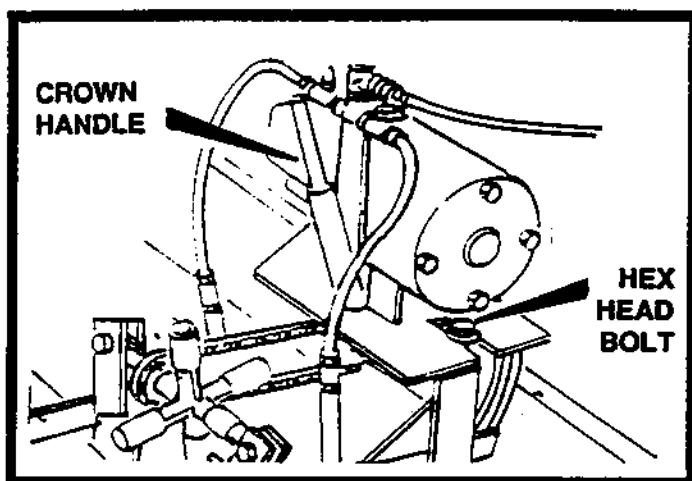

FIGURE 23
- A. Loosen nut in slot under vibration motor as shown in figure 23.